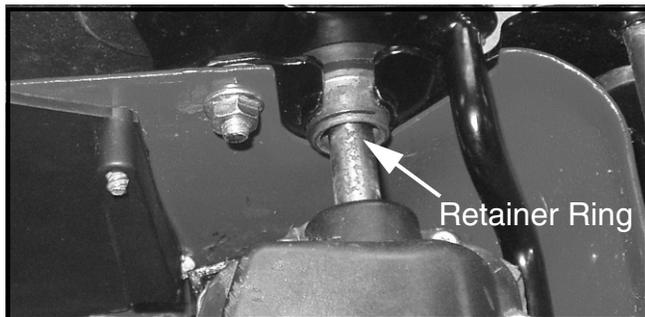

FIGURE 2
7. From under the mower's deck, locate the retainer rings securing the transmission support bearings to the RH and LH handle brackets. Using a flat blade screw drive, remove and discard the retaining rings from the grooves of the support bearings. See Figure 2.